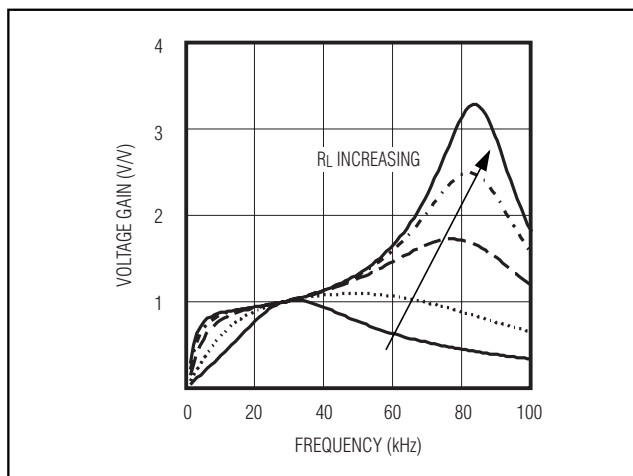

Figure 8. Frequency Response of the Resonant Tank
Figure 8 shows the frequency response of the resonant tank's voltage gain under different load conditions. The primary series capacitor is $1\mu\text{F}$, the secondary parallel capacitor is 15pF , the transformer turns ratio is 1:78, and the secondary leakage inductance is 260mH . Notice that there are two peaks, f_S and f_P , in the frequency response. The first peak, f_S , is the series resonant peak determined by the secondary leakage inductance (L) and the series capacitor reflected to the secondary (C'_S):